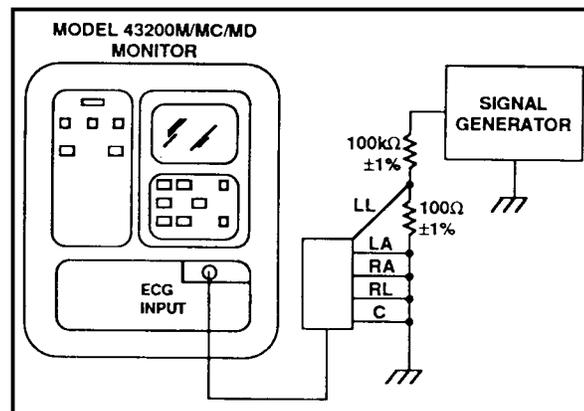

Figure 3-43
- (1) Press the POWER OFF switch.
- (2) Press and hold the RIGHT and LEFT arrow keys, press the POWER ON key, then immediately press the SELECT key. Release the RIGHT and LEFT arrow keys. Verify the CRT screen shows a ramp waveform.
- (3) Verify the beeper indicator is on. Press the UP and DOWN arrow keys simultaneously until "Gain xxxx a" is displayed on the CRT screen.
- (4) Press the SELECT key until ECG size indicator is on. Press the UP or DOWN arrow keys until "Gain 1000" is displayed on the CRT screen.
- (5) Press the SELECT key until the beeper indicator is on. Press the UP and DOWN arrow keys simultaneously until "NOISE x.xxv" is displayed on the CRT screen.
- (6) Connect the signal generator and resistors as shown in Figure 3-43.